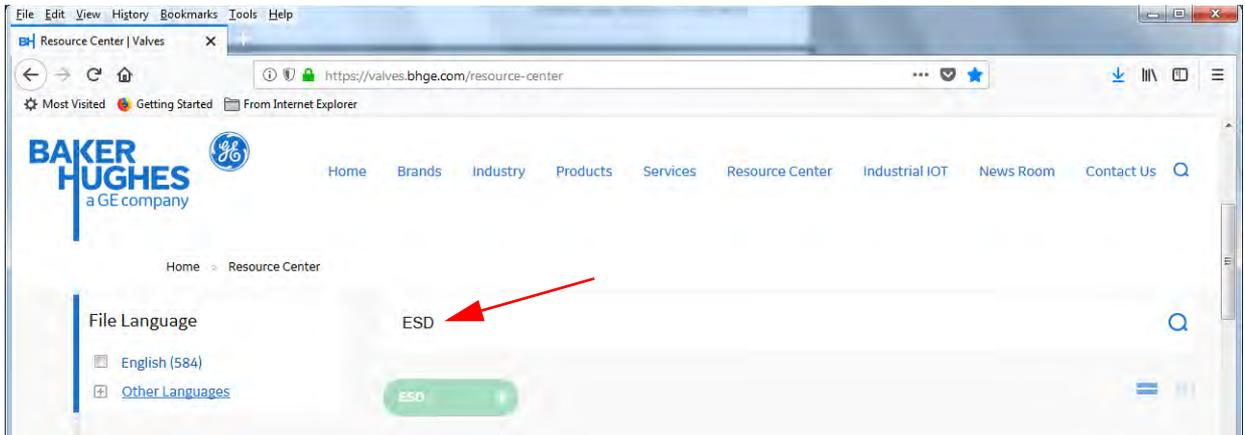

Figure 1 Download Search for ESD
- a. Entering *ESD* as the search term (red arrow) at the search screen (Figure 1), and clicking the magnifying glass search icon.